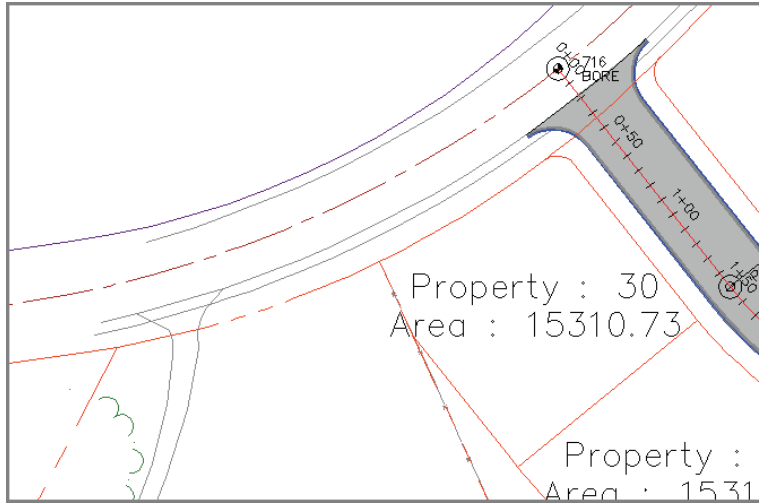

FIGURE 12.16 Trimming the parcel segment has removed the small triangular parcel.
5. When you're prompted for the objects to trim, click the west side of the small triangular parcel. The Property : 26 parcel disappears (see Figure 12.16), and the area of Property : 27 is updated.